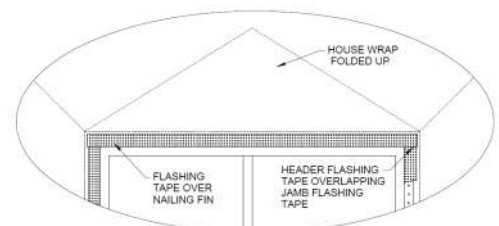

Fig. 4
20. Apply flashing across the head over the nail fin overlapping the jamb flashing. (Fig.4)